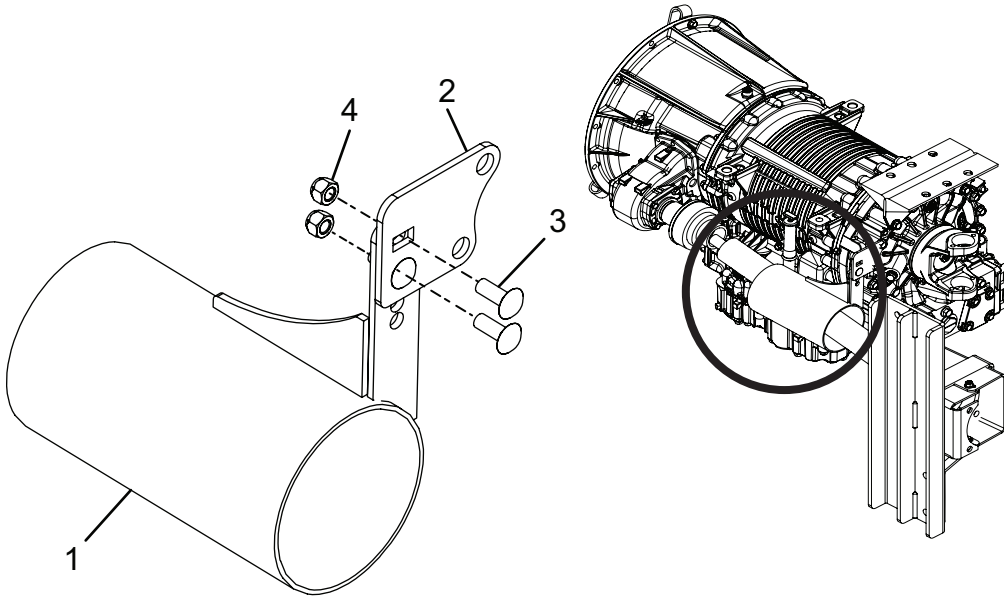

Figure 13
12. Using the appropriate wrenches, reinstall the retained hardware (see Figure 13, Items 3 and 4) to attach the circular Pump Mount cover (Figure 13, Item 1) to the support plate (Figure 13, Item 2). Tighten hardware until tight.